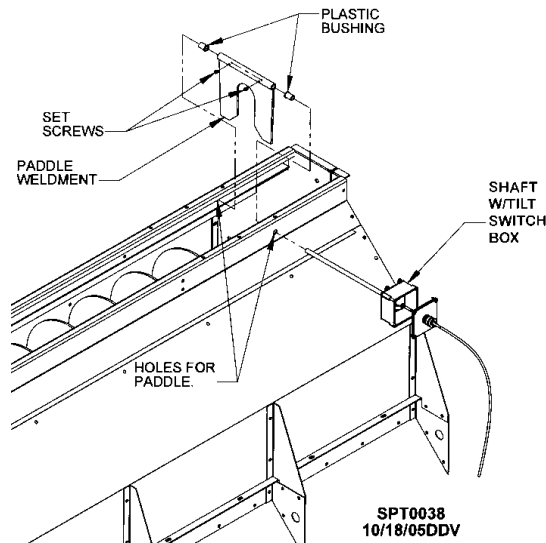

Fig. 2-23 – Paddle switch installation
3. Attach fill auger paddle switch assembly. Locate holes for paddle switch in wet bin on end opposite of filling end. See Fig. 2-23.
4. Slide a plastic bushing on each side of wet bin from inside out. Slide shaft with tilt switch box through bushing on one side of wet bin. Position paddle weldment inside of wet bin and slide shaft through pipe of paddle weldment. Slide shaft through bushing on other side of wet bin. Tighten setscrews of paddle weldment onto shaft, making sure paddle and box on shaft are square and paddle can pivot freely. See Fig. 2-23.